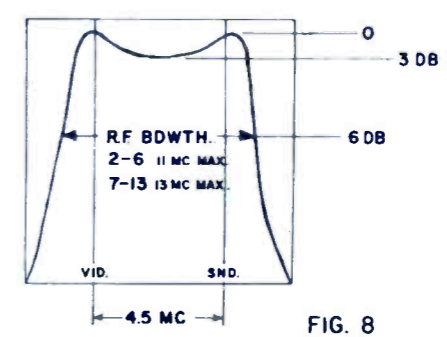

FIG. 8
6. Adjust the antenna trimmer (C5), r-f plate trimmer (C7) and the converter grid trimmer (C11) to produce a symmetrical pattern with the sound and picture markers appearing as shown in Figure 8. Care should be taken not to "stagger tune" these circuits. "Stagger tuning" is eliminated by tuning for maximum pattern height at the point midway between the two marker frequencies.